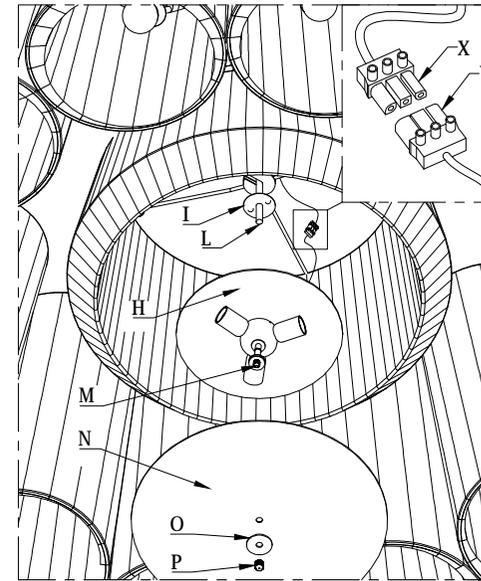

Fig.2
- Agganciare il paralume centrale inserendolo nel tubo filettato (L) e avvitando la rondella (I) (Fig. 2).
- Avvitare la piastra (H) al tubo filettato (L) senza forzare (Fig.2).
- Unire i connettori (X) e (Y) (Fig.2) .
- Fissare il plex di chiusura (N) avvitando il particolare (P) e la rondella (O) al perno (M) (Fig.2) .
- Fix the central lampshade inserting it in the threaded tube (L) and by screwing the washer (I) (Fig. 2).
- Screw the plate (H) to the threaded tube (L); don't force (Fig.2).
- Join the particular (X) with the particular (Y) (Fig.2).
- Fix the Plexiglass (N) by screwing the detail (P) and the washer (O) to the threaded tube (M) (Fig.2).